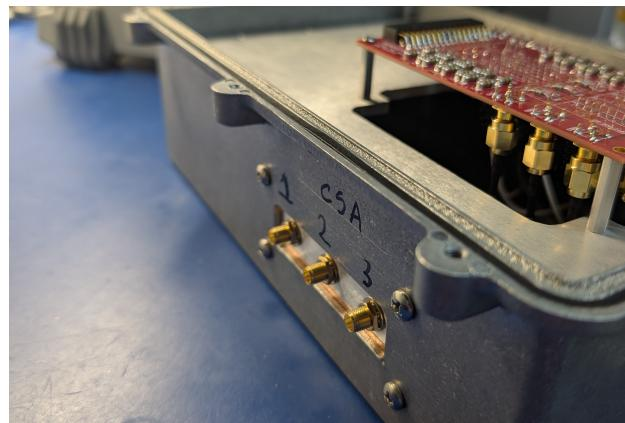

Figure 6: Test Point Side View of enclosure
The SMA connectors read test points after the signal has been preamplified at the location pictured in Figure 6.
4. Connect an SMA connector from an oscilloscope to the test point of the channel being tested. The test point connections can be found on the side of the enclosure, as seen in Figure 6. Adjust the scaling of the oscilloscope as necessary, and the following waveform should appear: